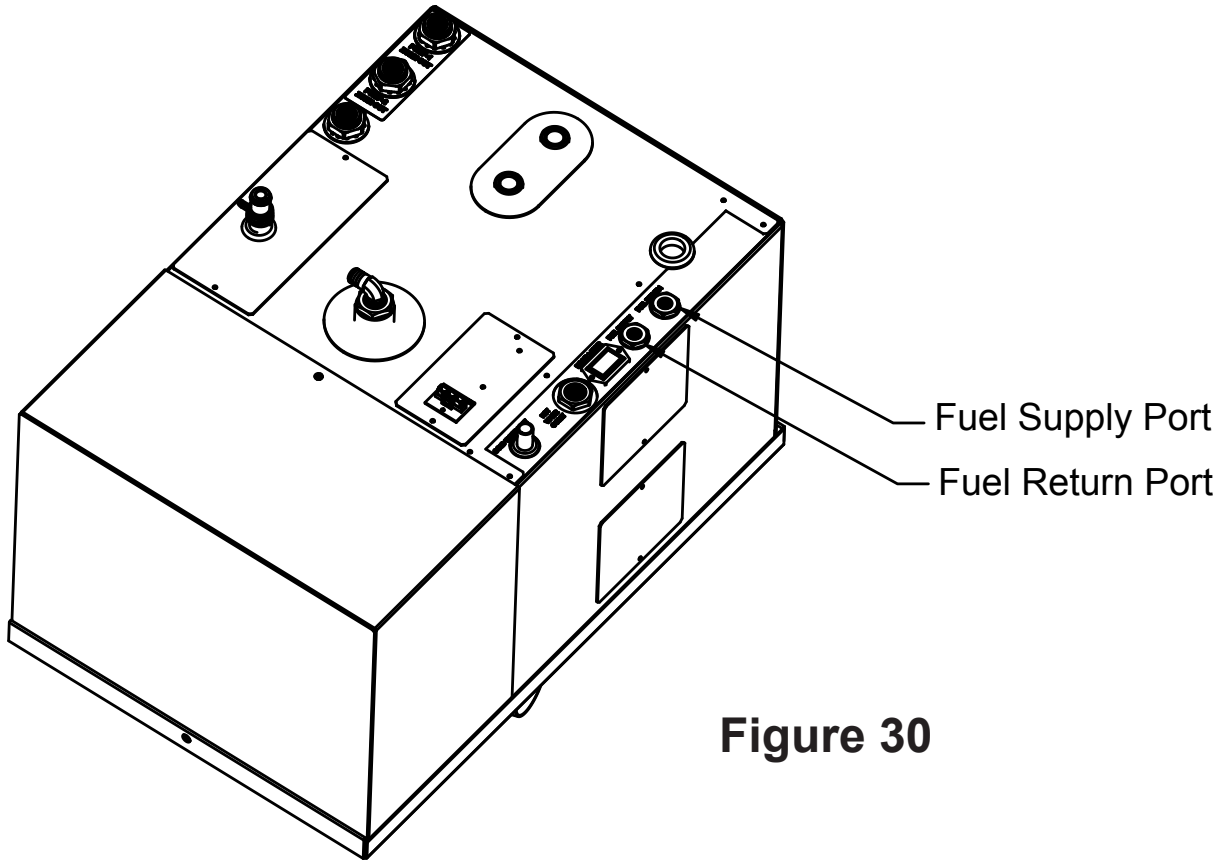

Figure 30
4. Install and tighten the appropriate fuel fittings onto the Aqua-Hot's Fuel Ports, as well as the two ports of the Fuel Filter; reference Figures 30 and 31.
5. Connect the Supply and Return Fuel Lines to the Aqua-Hot's Fuel Port connections; reference Figure 30.
NOTE: Reference Figure 28 for details on the Fuel Tank connections. Reference Figure 30 for details on the Aqua-Hot's Fuel Port connections.